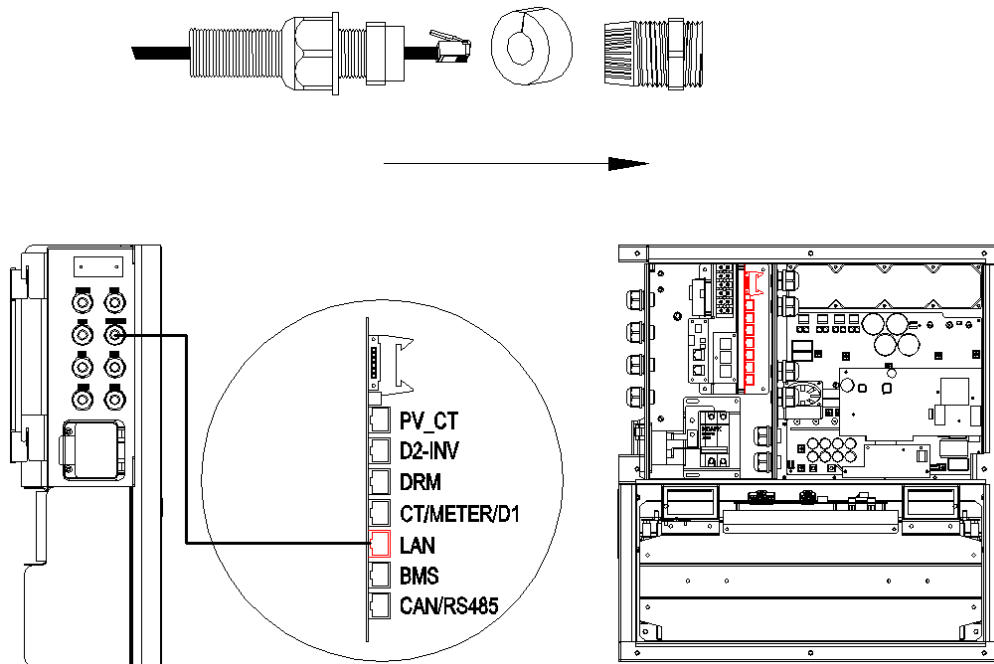

Figure 2.13 Ethernet Communication Cable Wiring
Step 8: Install ethernet communication cable, as shown in Figure 2.13. It won't be needed if using WiFi module.